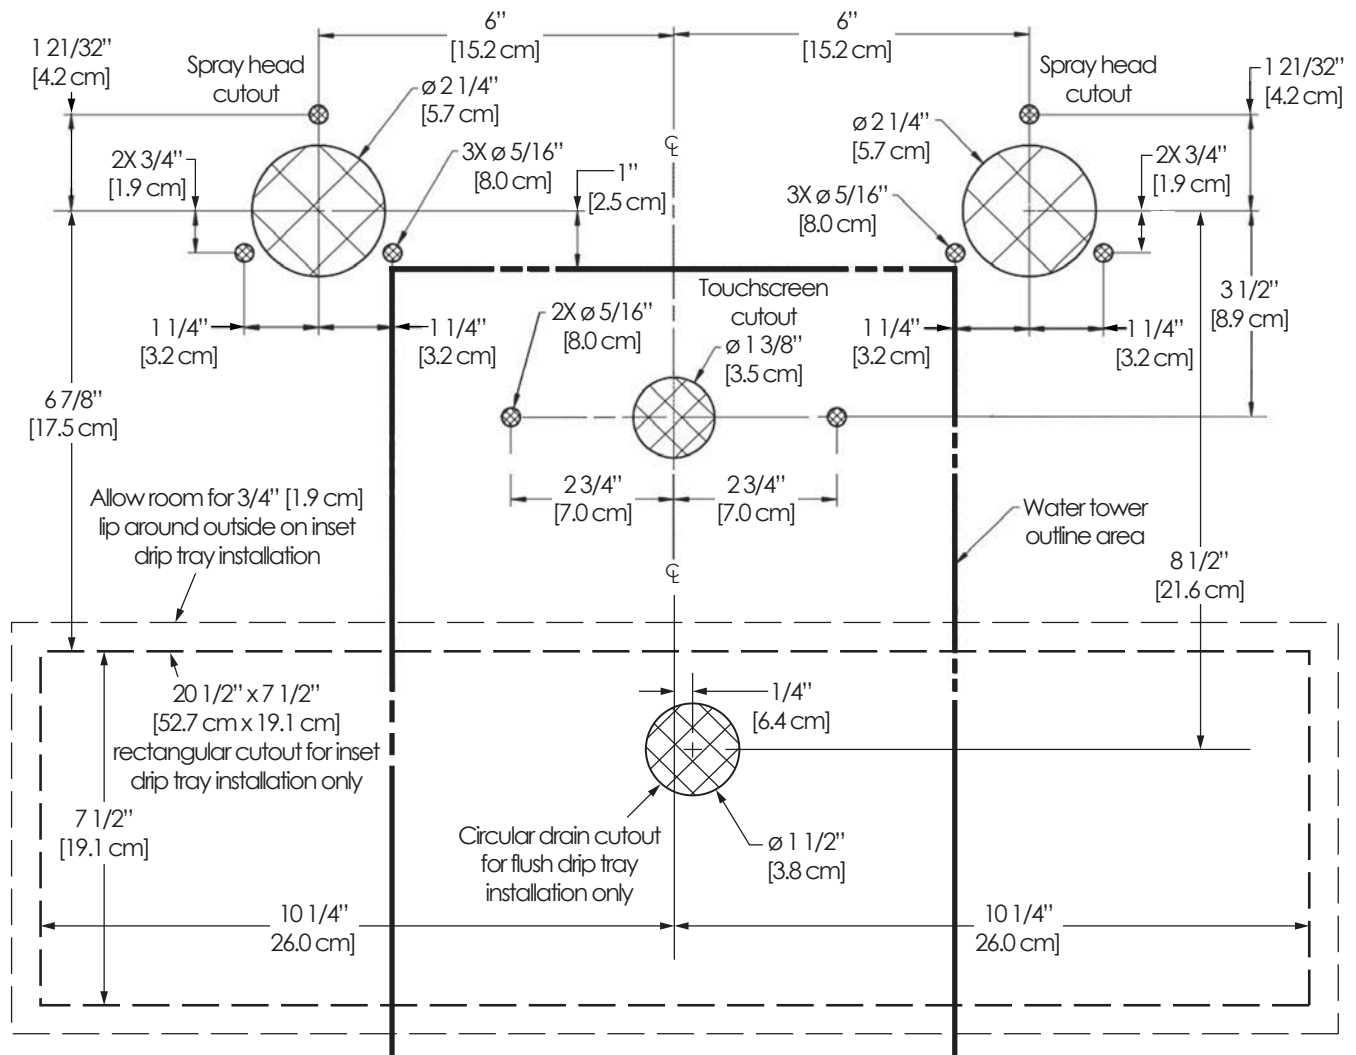

Figure 3 - Hole Pattern Template for Cutting and Drilling Countertop (Drawing Not to Scale)
- 7 Holes must be cut into the counter top prior to installing the brewer. The hole pattern is critical for proper operation. See **Figure 3** on the following page. The two brew heads must fit within a 2 foot by 3 foot area.
Packed with the unit is a full-size template (Part # WC-390245). Use the template for cutting the required holes needed for installing the brew heads, touchscreen and drip tray. The two largest circular holes are for the brew head assemblies, along with three stud holes for the mounting plate for each head. Also, there is a circular hole for the touch screen, along with the two mounting holes. The drip tray can be inset into the counter or mounted flush. Inset installation is recommended. The rectangular hole shown in **Figure 3** is for inset installation. If the drip tray will be mounted flush, a circular hole is drilled in the location shown for the drain instead of a rectangular hole.
- 21 Center the water tower between the two brew heads under the countertop. Refer to the hole pattern drawing (Figure 3) for the proper location. Level it left to right and front to back by turning the bottom of the legs.